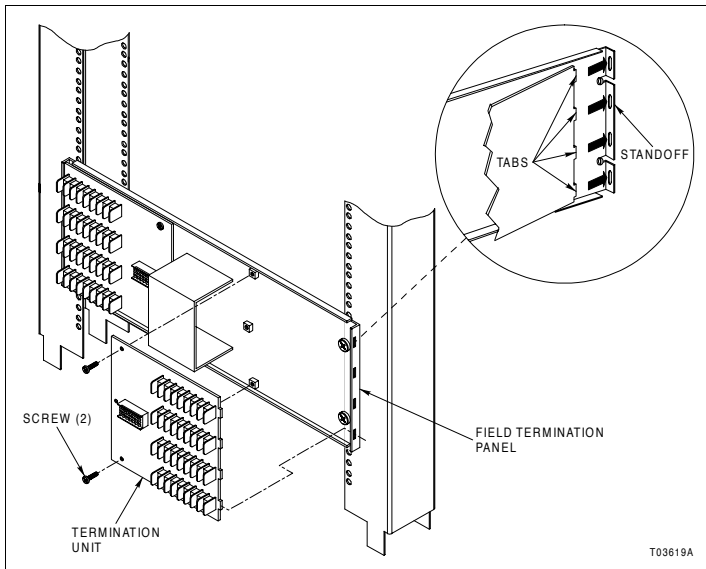

Figure PR2-1. Termination Unit Attachment
- ☐  1. Position the termination unit on the NTFP01 panel. Insert the tabs of the termination unit into the slots of the panel standoff as shown in Figure PR2-1.